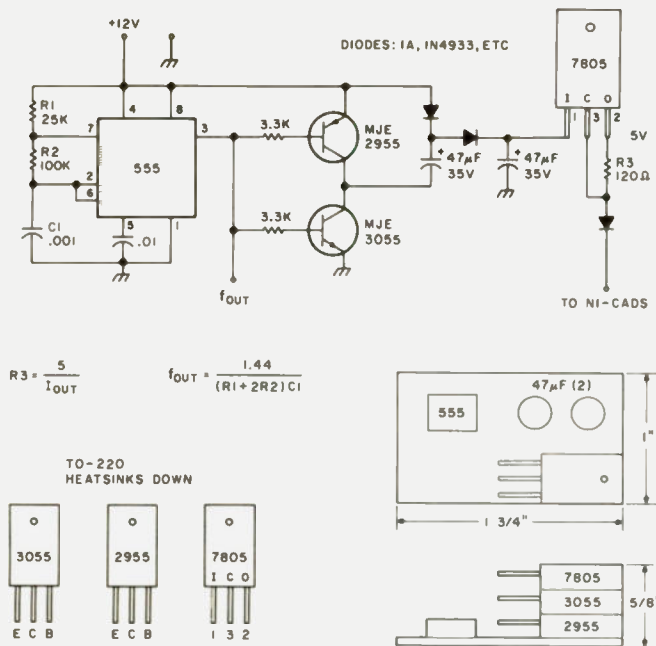

Fig. 1.
**Charger:** The voltage-doubling circuit shown in Fig. 1 and Photo A is adapted from K5PA's article in the April, 1978, *Ham Radio*, p. 36. It charges at 45 mA anytime the rig is on external power. The 555 is in the standard astable mode and the 7805 is the standard current-limiting circuit as found in the *Motorola Linear I.C. Data Book*. I built it on 1" × 1-3/4" vectorboard. If the transistors and 7805 are stacked as shown, the